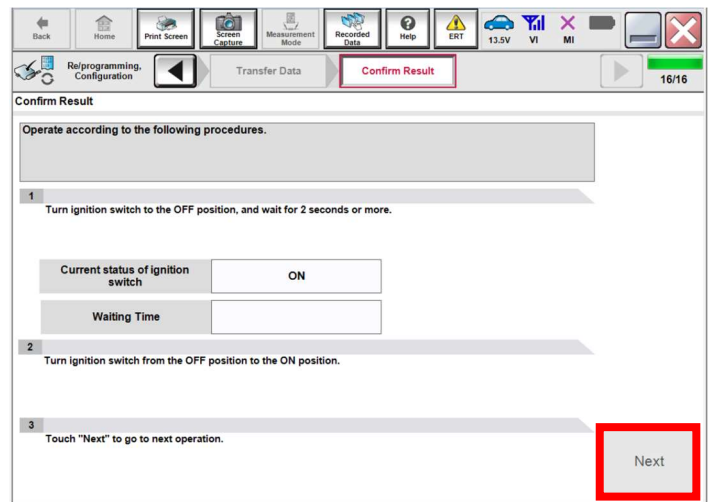

Figure 32
35. Follow the on-screen instructions for ignition cycling and select **Next**. (Figure 32)